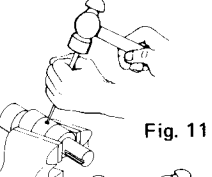

Fig. 11
1. Clamp shaft in vice and drive out **CAM RETAINER PEG** with 1/8" drift punch (Fig. 11).